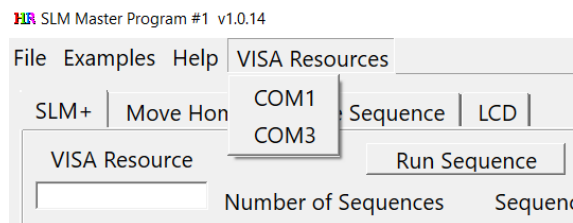

Figure 1, inactive VISA Resource menu.
- Figure 1, inactive VISA Resource menu.
This **notification window** indicates COM port of laptop through which SLM+ communicates with the Arduino Uno microprocessor via USB cable. If there is no COM port listed there, SLM+ has not autodetected Arduino and there is no communication with Arduino. *The “VISA Resources” MENU is inactive and, unlike the prior LabView software, has no purpose in this incarnation (see Figure 1).*